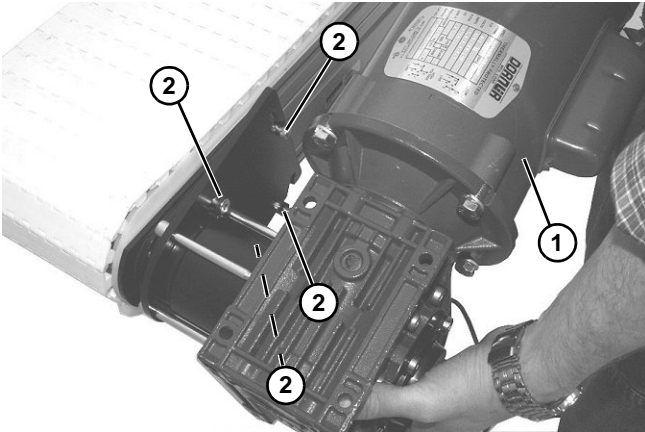

Figure 5
Be sure four spacers on mounting screws (Figure 5, item 2) are in place next to conveyor before installing gearmotor.
5. Slide and pivot gearmotor and gearmotor mounting bracket (Figure 5, item 1) onto four mounting screws (Figure 5, item 2) (through slots in gearmotor bracket).
6. Tighten four mounting screws (Figure 5, item 2).